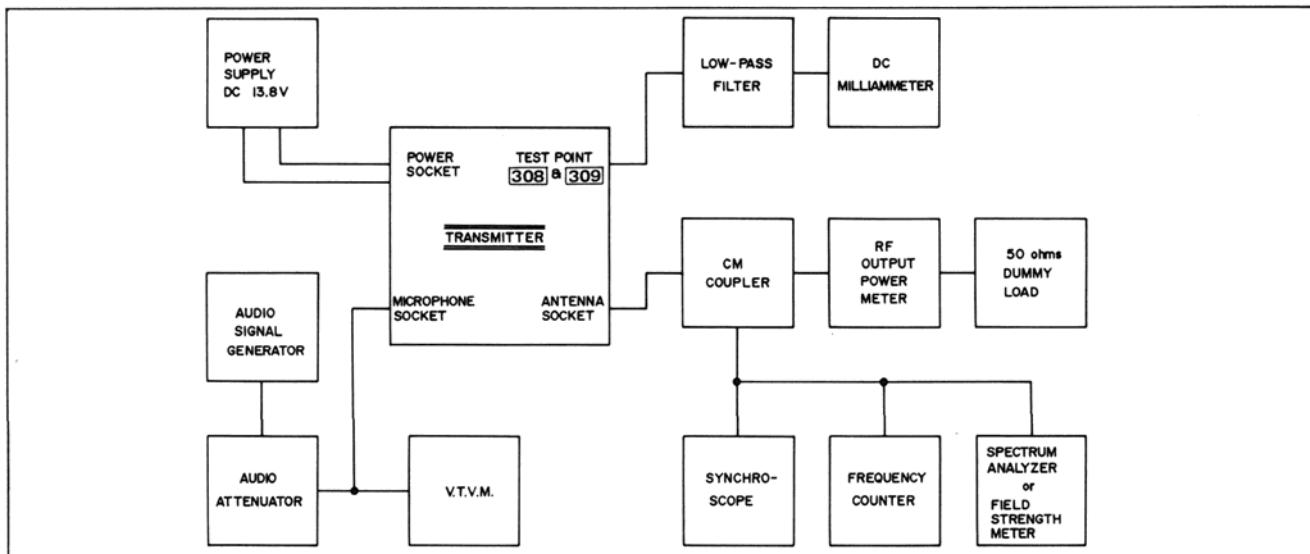

Figure 6
- 2 When making the connection of measuring instruments, see Figure 6.